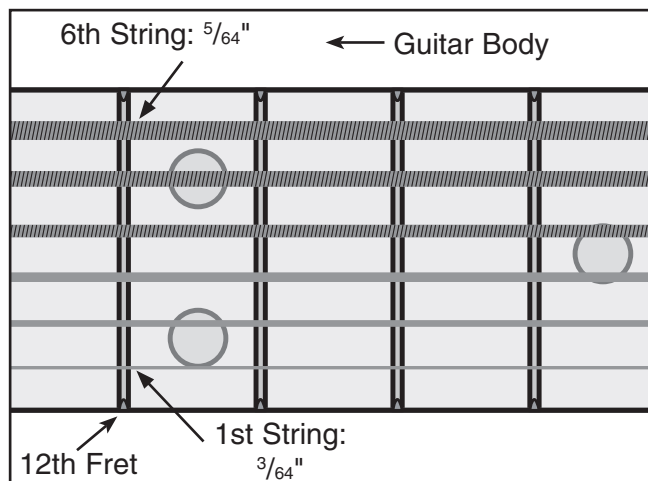

Figure 33. Correct 12th fret string heights.
2. Measure the string height at the twelfth fret as shown in **Figure 33**.